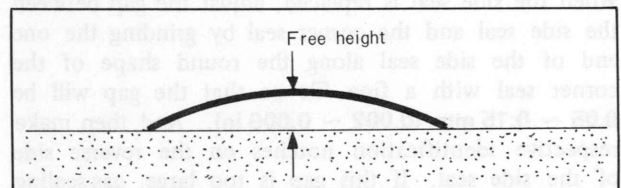

Fig. 1-46 Apex seal spring
6. Check the free height of the apex seal spring as shown in Fig. 1-46. It should be more than 5.5 mm (0.22 in).